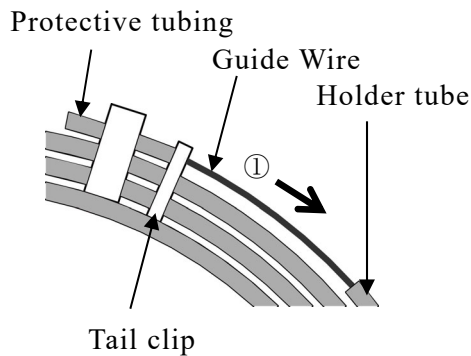
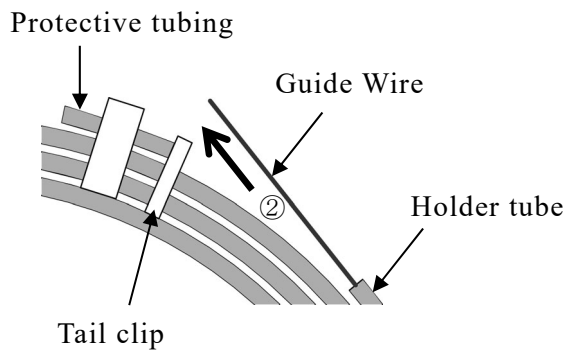

Figure 1
Figure 2
- When withdrawing the guide wire from the holder tube, hold the guide wire proximal end part, slide the guide wire in the direction of Arrow (1) slowly, and withdraw the proximal end part of the guide wire from the protective tubing and tail clip (Figure 1). Then, confirm that the proximal end part of this guide wire is completely out of the tail clip. Moreover, hold this guide wire, pull it in the direction of Arrow (2), and withdraw it from the holder tube. (Figure 2)
- c) Grasp the guide wire proximal end part, slide the guide wire in the direction of Arrow (1) slowly, and withdraw the proximal end part of the guide wire from the protective tubing and tail clip (Fig. 1 of Precautions). Then, confirm that the proximal end part of this guide wire is completely out of the tail clip. Grasp this guide wire, pull it in the direction of Arrow (2), and withdraw it from the holder tube. (Fig. 2 of Precautions) (Withdraw this guide wire from the other side than the flush connector.) Then, if resistance is felt, fill up the holder tube again with heparinized saline. Still, if resistance is felt, replace this guide wire with a new one. [Forced withdrawal may damage or rupture this guide wire.] After pulling the guide wire out of the holder tube, inspect it to make sure that it is not damaged.